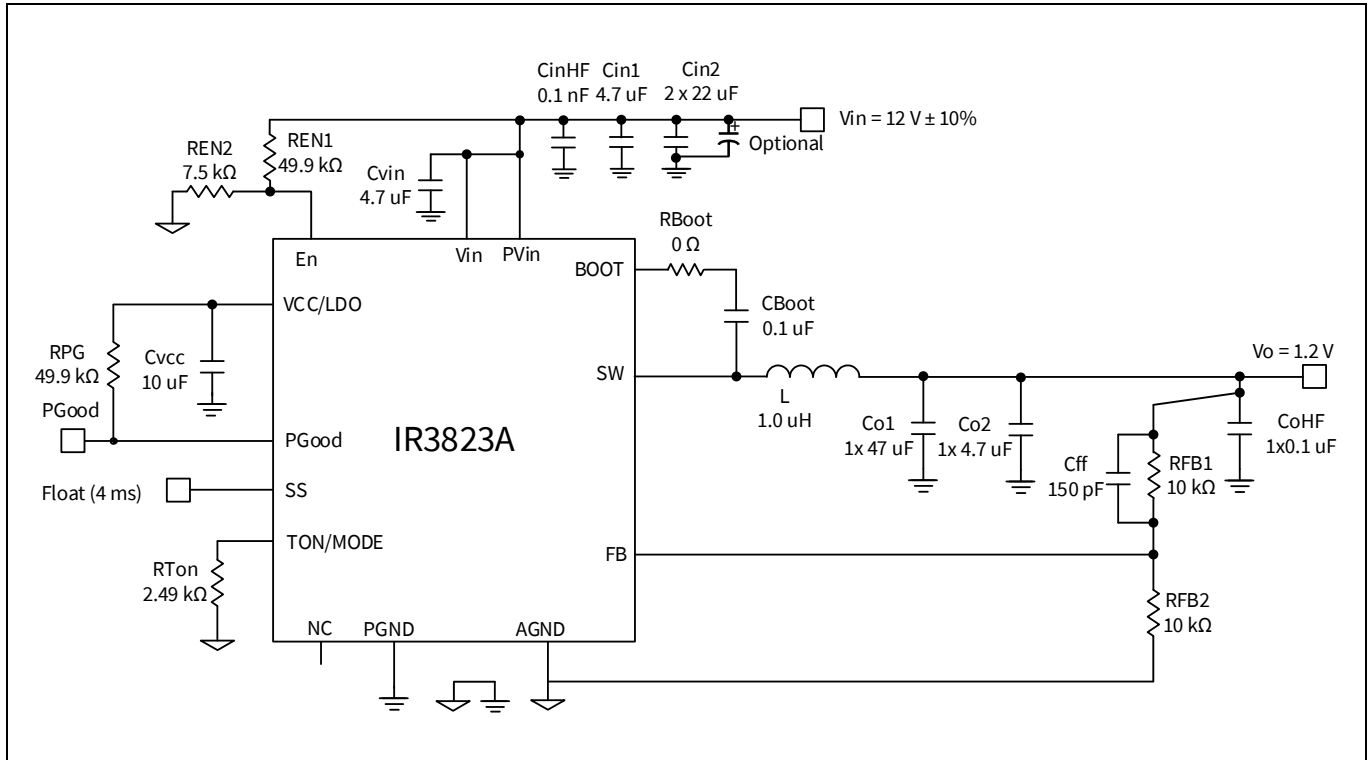

Figure 13 Application diagram of IR3823A. Pvin = 12 V, Vo = 1.2 V, Io = 3 A, fsw = 1000 kHz.
In this section, an example is used to demonstrate how to design a buck regulator with the IR3823A. The application circuit is shown in **Figure 13**. The design specifications are given below:
- To implement the  $V_o$  sensing, the following design guidelines should be followed, as illustrated in Figure 13.